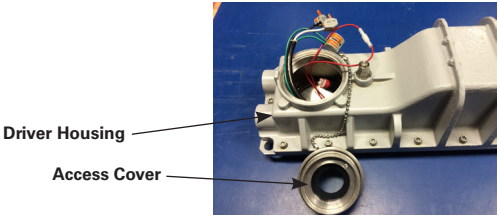
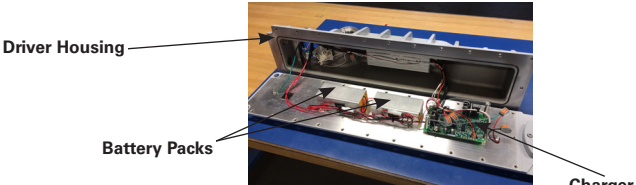

Figure 10
Figure 11
- 3. Battery replacement requires removal of the driver housing (see Figure 11).
- 4. Open the threaded wiring access cover (see Figure 10) and allow the cover to hang by the lanyard.
- 9. Remove the twenty-four (24) socket head cap screws and lock washers from the driver housing using a 5mm hex wrench or bit.
- 11. Remove the driver housing. Note: Keep the housing close to the luminaire body to avoid strain on the attached wire harness (see Figure 11).